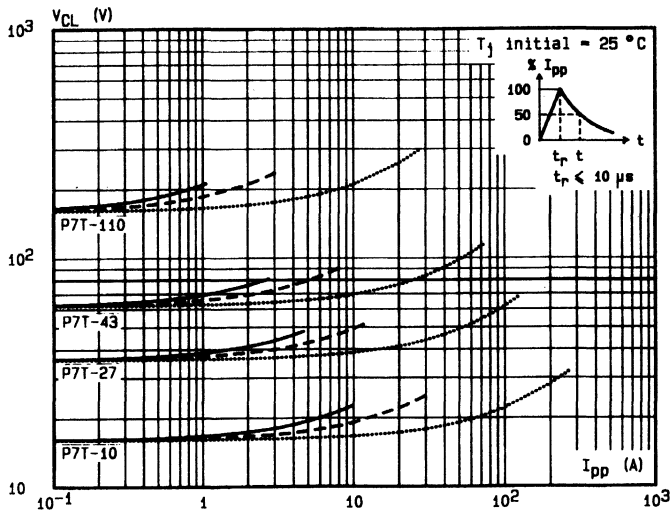

Fig. 2 - Clamping voltage versus peak pulse current.
Note : The curves of the figure 2 are specified for a junction temperature of 25 °C before surge. The given results may be extrapolated for other junction temperatures by using the following formula : $\Delta V (BR) = \alpha T (V(BR)) \times [T_j - 25] \times V (BR)$